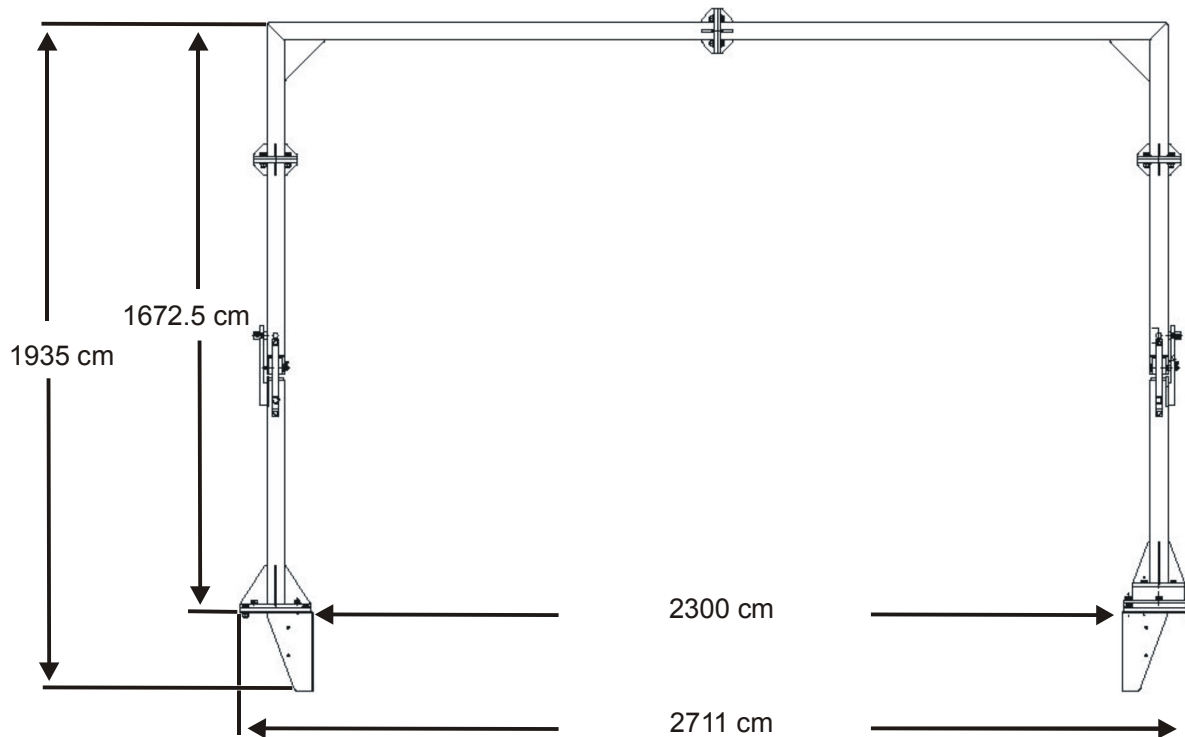

Figure 1-6. HLA Shelter Antenna General View
1.3.3 HLA SHELTER ANTENNA (See Figure 1-6)